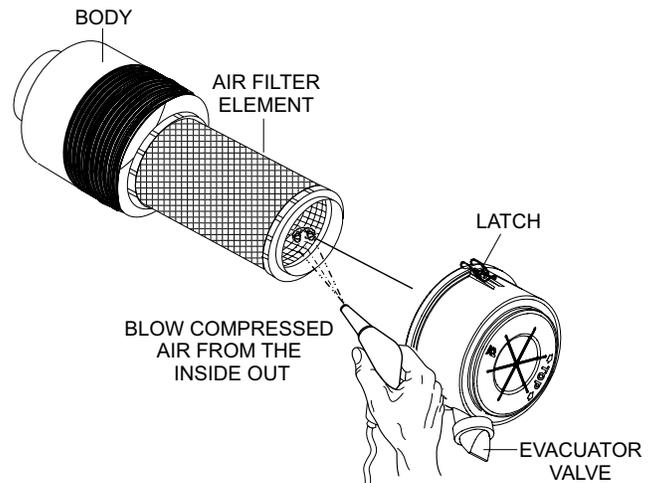

Figure 26. Air Filter
Every 50 hours: Remove air filter element (Figure 26) and clean the heavy-duty paper element with light spray of compressed air. Replace the air cleaner as needed.
1. Release the latches (Figure 26) that secure the cover to the air filter body.
6. To clean the air filter element (paper air filter) as referenced in Figure 26, tap the filter element several times on a hard surface to remove dirt, or blow compressed air, not to exceed 30 psi (207 kPa, 2.1 kgf/cm²), through the filter element from the inside out.